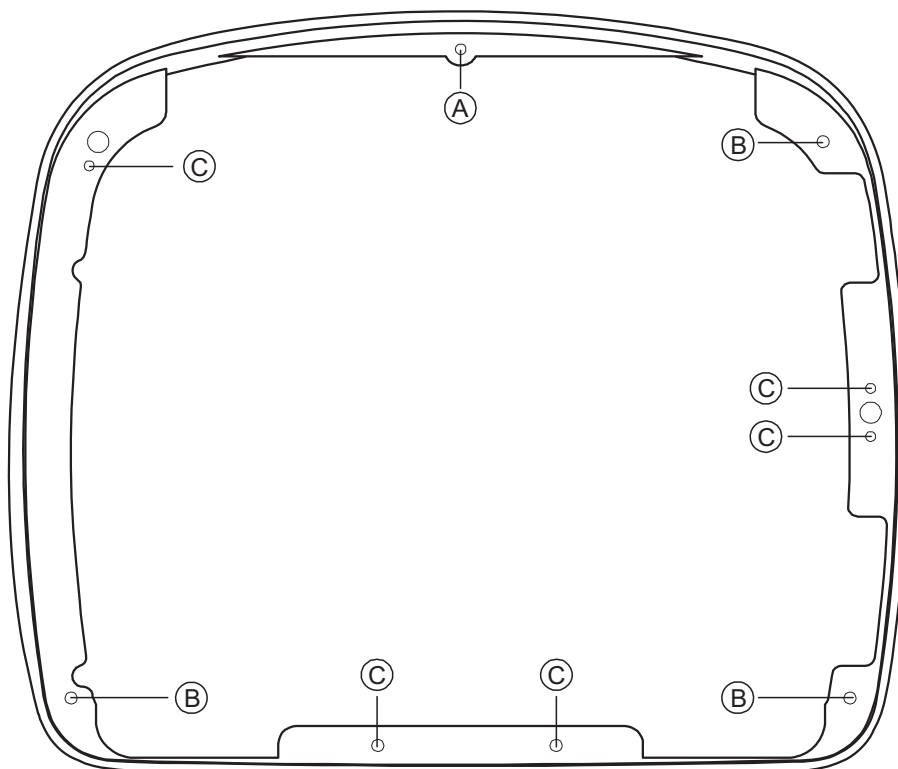

FIGURE 53
- 2.) ATTACH THE DVD ASSEMBLY TO THE TRIM RING USING A SCREWDRIVER AND THE 9 TRIM RING SCREWS. (SEE FIGURE 53)